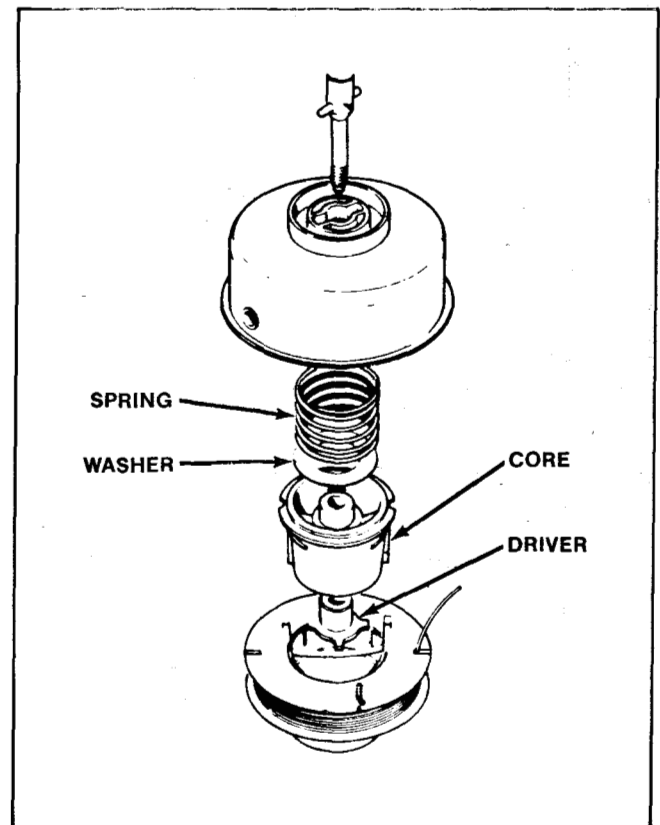

Figure 114
3. While holding the drum stationary, unscrew the core and driver assembly by rotating them counterclockwise. See Fig. 114.
2. Center the spring on the drive shaft and then place the washer, driver and core onto the shaft as an assembly. See Fig. 114.